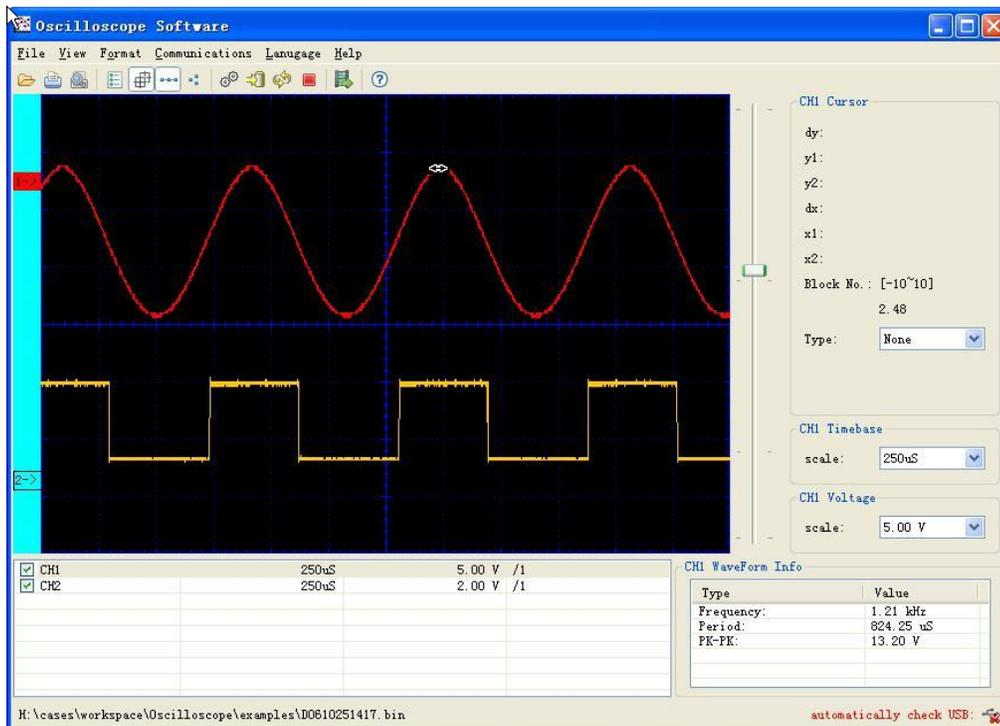

Figure 5-1-1 Waveform display range
1. Moving the waveform horizontally (Fig. 5-1-1)
2. Moving the waveform horizontally (Fig. 5-1-1)